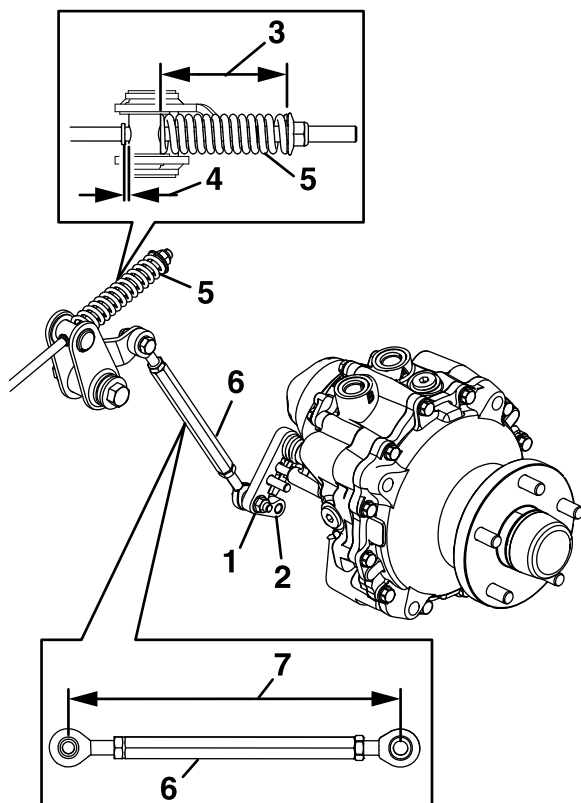

Figure 59
7. Measure the length of the link assembly (Figure 59).
8. Measure the length of the spring (Figure 59).